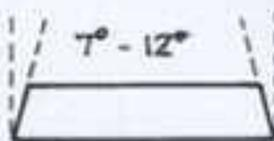
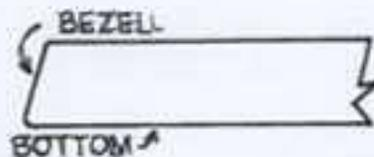

Fig. 2
Fig. 3
3. Rough grinding (100 grit) - mark the back of the stone with an X and with the X facing up, grind out the shape on the coarse wheel, making the sides at an angle of 7° to 12° (Fig. 2) to the bottom. Check size
From the bottom edge, grind a very small, rounded chamfer (Fig. 3) which prevents chipping. Use a 220 grit grinding wheel, 220 drum sander or finer, depending on the hardness of the material.
After the plastic is hard, it is trimmed along lines F (Fig. 2) on a jig saw so that it will fit into the one-inch micro-mount box G (Fig. 3). The trimming